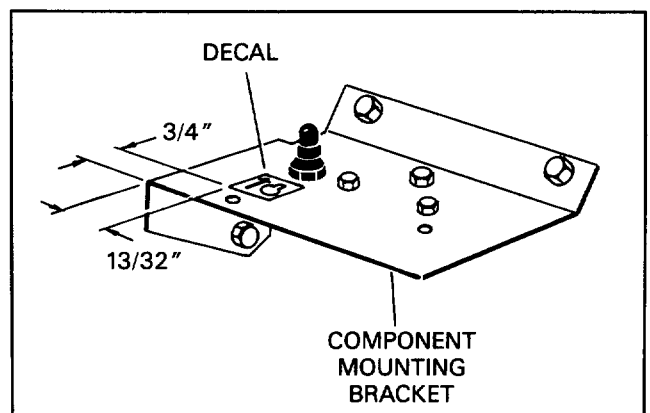

Figure 16
29. Align with the bottom edge and install starter switch decal onto component mounting bracket as shown in fig. 16.